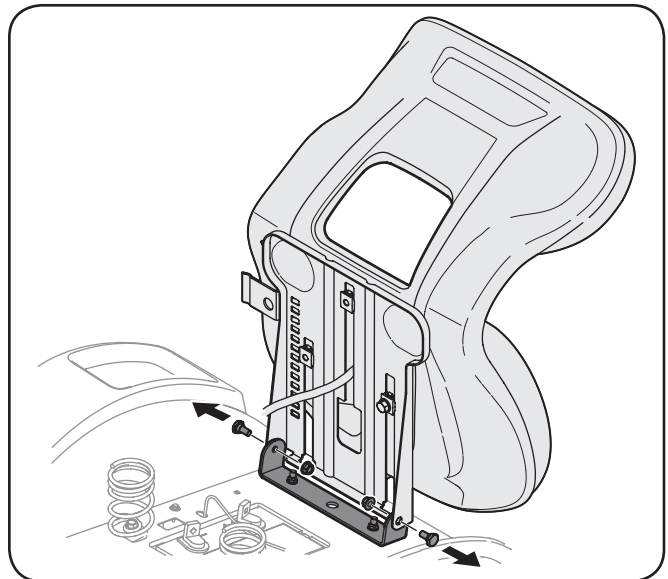

Figure 3-2
2. Remove the two shoulder screws and flange lock nuts in the seat pan as shown in Figure 3-2.